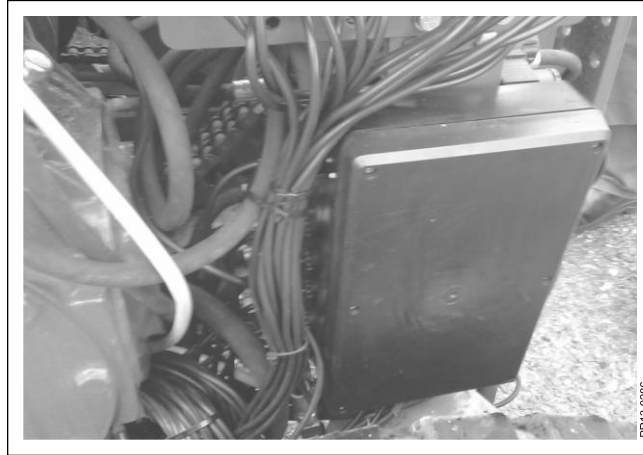

Fig. 5-6
- Fig. 5-6** The control unit **A** located under the left rear guard contains the necessary controls for the metal detector. It receives a signal from the magnetic tub, and in cases where magnetic metal is detected, it sends a signal to the coil to block the feed intake and to the reverse function to switch to the neutral position. It also verifies whether the feed intake has reversed via the magnetically operated switch. The metal detector is active when the machine is started and requires reversing before it can operate normally. See Fig. 6-7 "Driving in the field, MD control". The metal detector turns on each time the control unit is switched on.